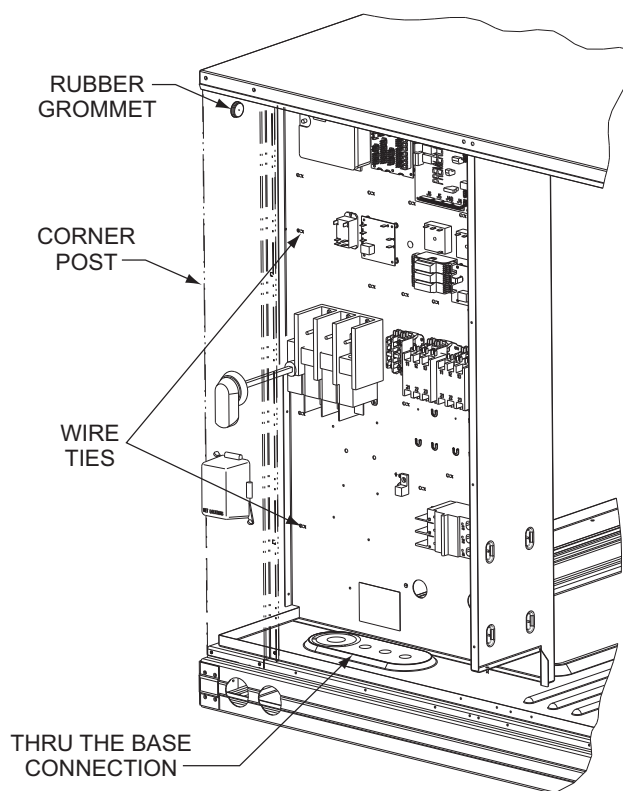

Fig. 32 — Field Control Wiring Raceway
2. Feed wires through the raceway built into the corner post (see Fig. 32) to the 24-v barrier located on the left side of the control box. The raceway provides the UL-required clearance between high-voltage and low-voltage wiring.